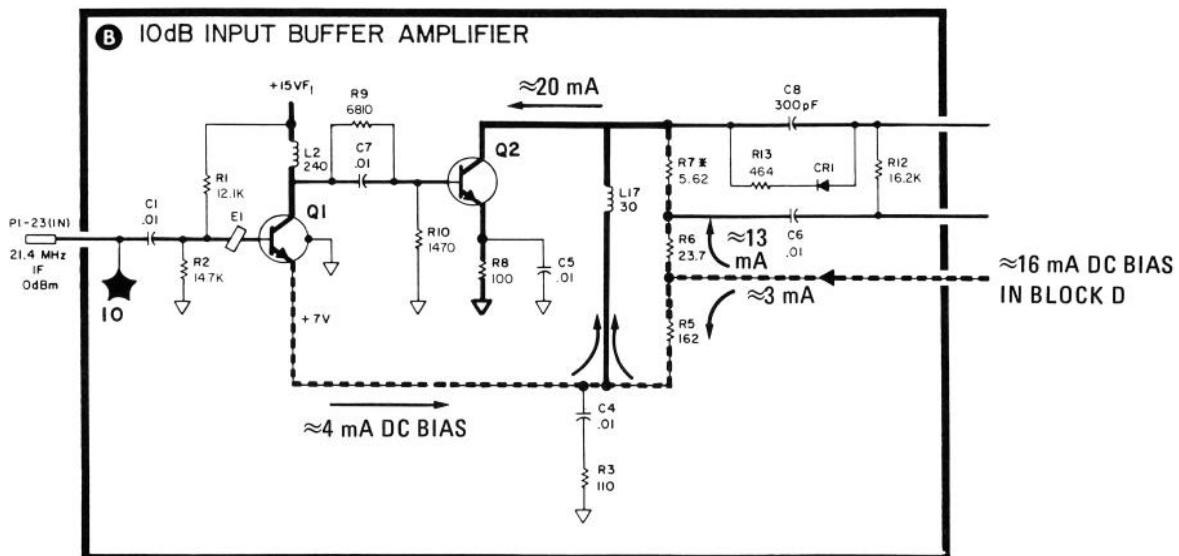
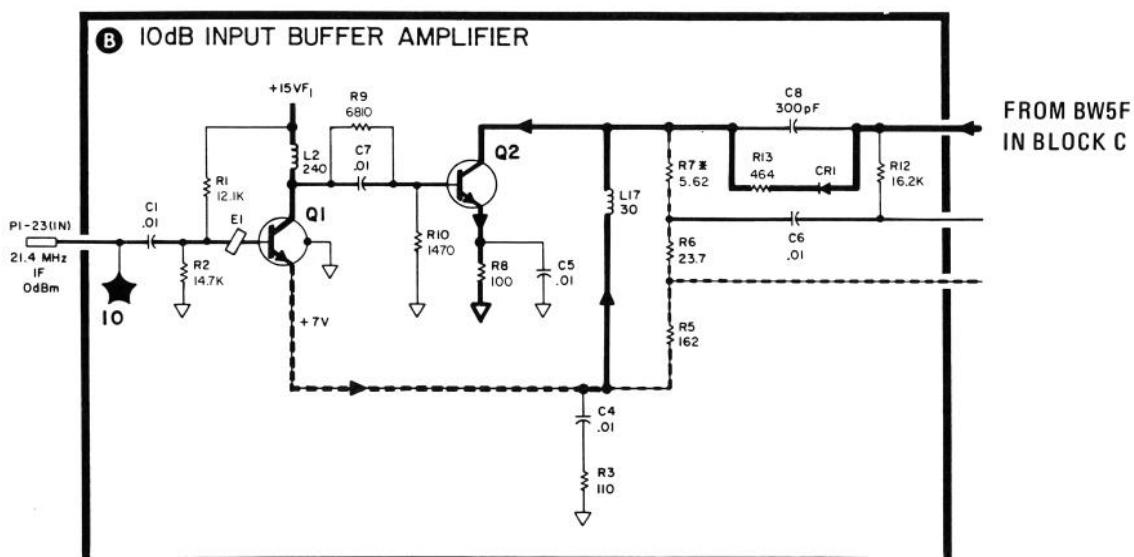

FIGURE 8-35. DC BIAS PATH DURING CRYSTAL POLE OPERATION
FIGURE 8-36. DC BIAS PATH DURING LC POLE OPERATION
Two current paths are used for dc bias in the input buffer amplifier: one for crystal filter poles, another for LC filter poles. When a crystal-filtered bandwidth (≤ 30 kHz) is selected, Q3 (block **(D)**) and Q1 are the sources for the current through Q2 (see Figure 8-35). The base voltage of Q2 is fixed by the divider R9 and R10 while the emitter is fixed by R8. The collector, therefore, becomes a constant-current sink for 20 mA of current supplied by Q1 and Q3. A decrease in the current supplied by Q3 results in increased current through Q1, keeping the current through Q2 constant. If an LC-filtered bandwidth is selected, BW5F (filtered bandwidth control line 5 in block **(C)**) supplies current via CR1 and R13 (see Figure 8-36); Q3 is effectively removed from the circuit.
When an LC filtered bandwidth is selected, BW5F is at +15V; BW7F is at a voltage greater than or equal to +6.8V and supplies bandwidth-determining bias current to CR3. Supply line +VF BIAS is always at +6.8V. Control line BW5F reverse biases CR8 (block (B)), disabling the crystal pole, and forward biases CR1 (block (B)) opening the dc bias path to Q2 (see Figure 8-36). During LC operation, CR6 is reverse biased, keeping C28 out of the circuit. When a crystal filtered bandwidth is selected, BW5F forward biases CR6 and allows C28 to ground the signal path.